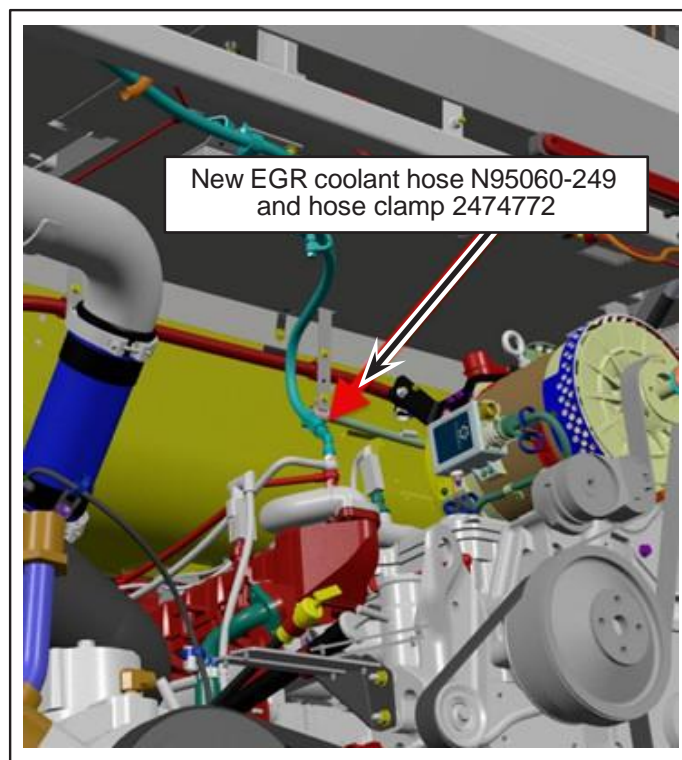

Figure 4 - New EGR Coolant Hose Connected to the Engine
- 1.13. Slide a new hose clamp 2494772 on the N95060-249, torque at 35 ± 4 lb-in (4 ± 0.5 N•m) and apply torque seal. See Figure 4.
- 1.15. Quickly, disconnect and connect the new N95060-249 hose. See Figure 4.
- 1.16. Slide and tight the hose clamp 2494772 to the hose connection point on the engine. See Figure 4